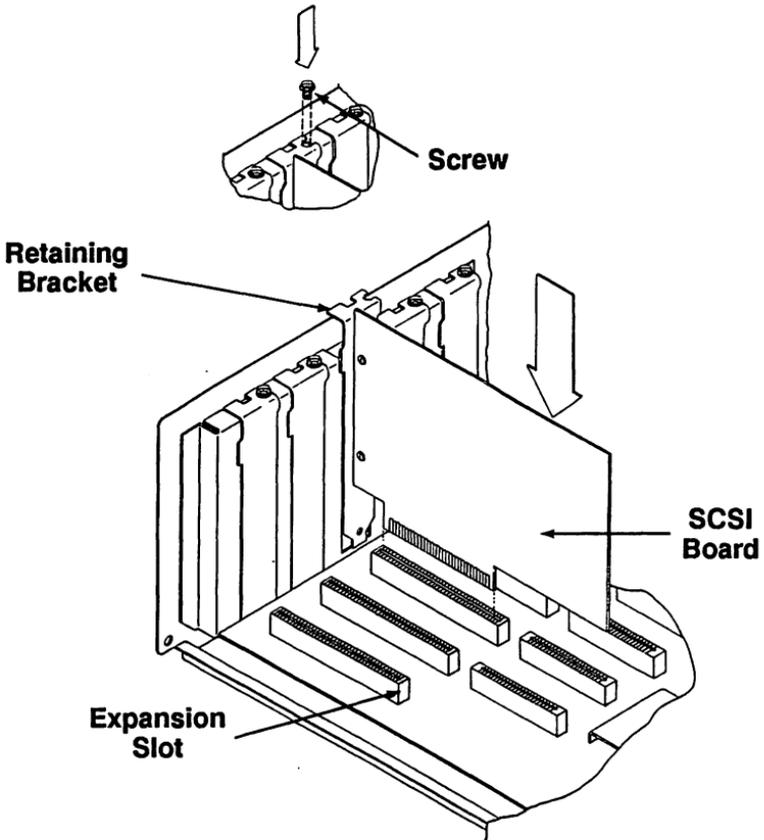
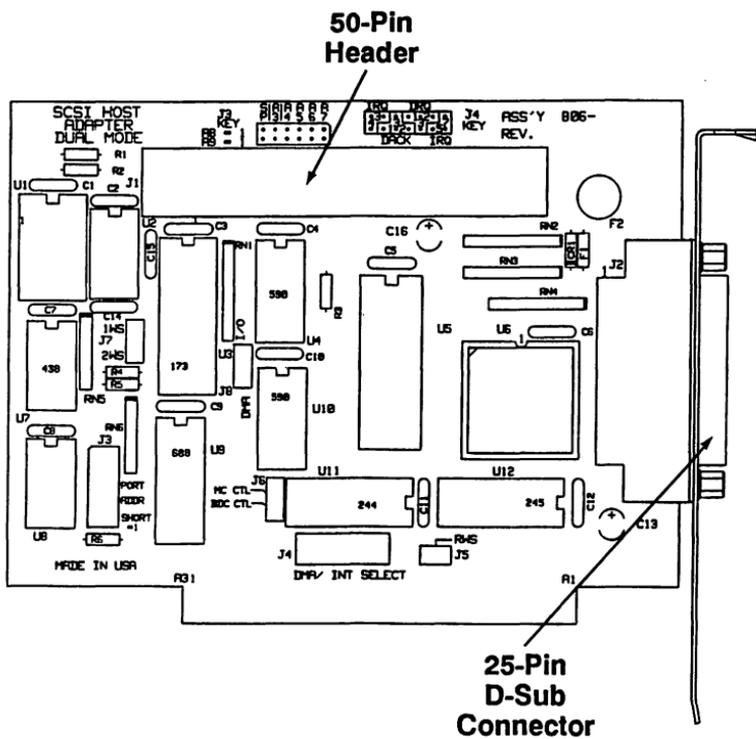

Figure 1. Installing the SCSI Board
Figure 2. Dual Mode SCSI Host Adapter Board
4. Insert the SCSI board into the expansion slot, as shown in Figure 1, and tighten the screw of the retaining bracket. Note that the 50-pin header for internal tape drive connection or the 25-pin D-sub connector for external tape unit connection. These connectors are shown in Figure 2.
keyed so that it can be connected in only one way. If you need to, refer to Figure 2 for the location of the header.